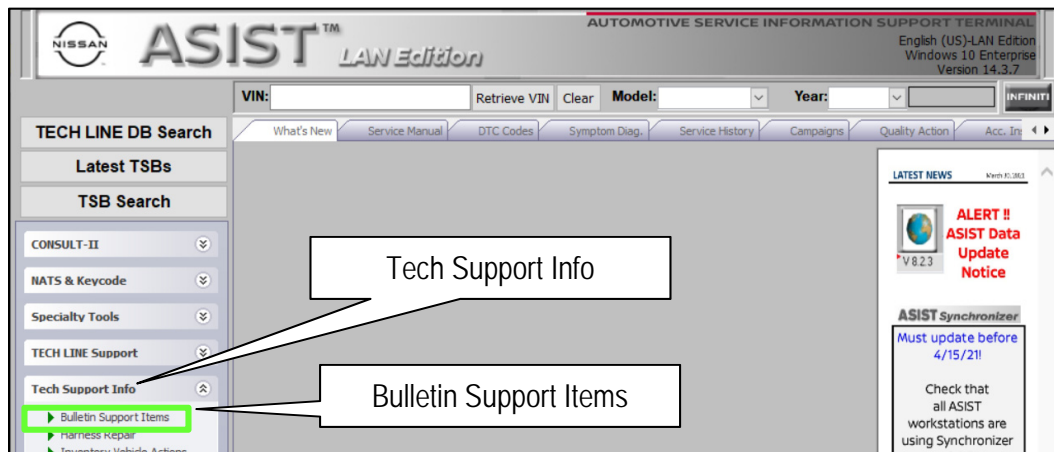
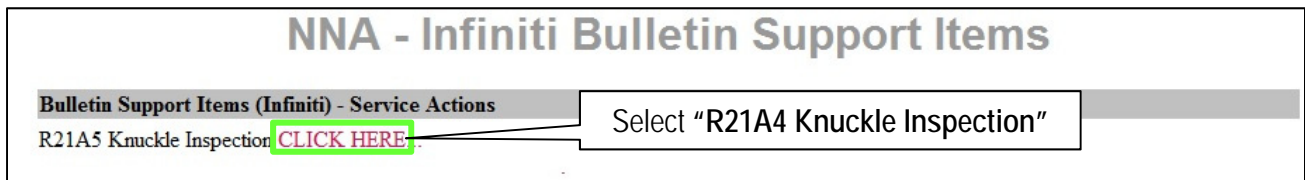

Figure 23
Figure 24
29. Open the ASIST form found at **ASIST > Tech Support Info > Bulletin Support Items > R21A5 Knuckle Inspection** (see Figure 23 and Figure 24).